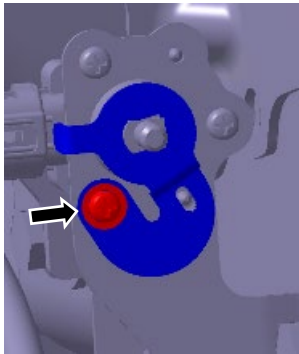

Fig. 38-2
- (d) Install the rearmost Philips head headlight height sensor mounting screw (Fig. 38-2).